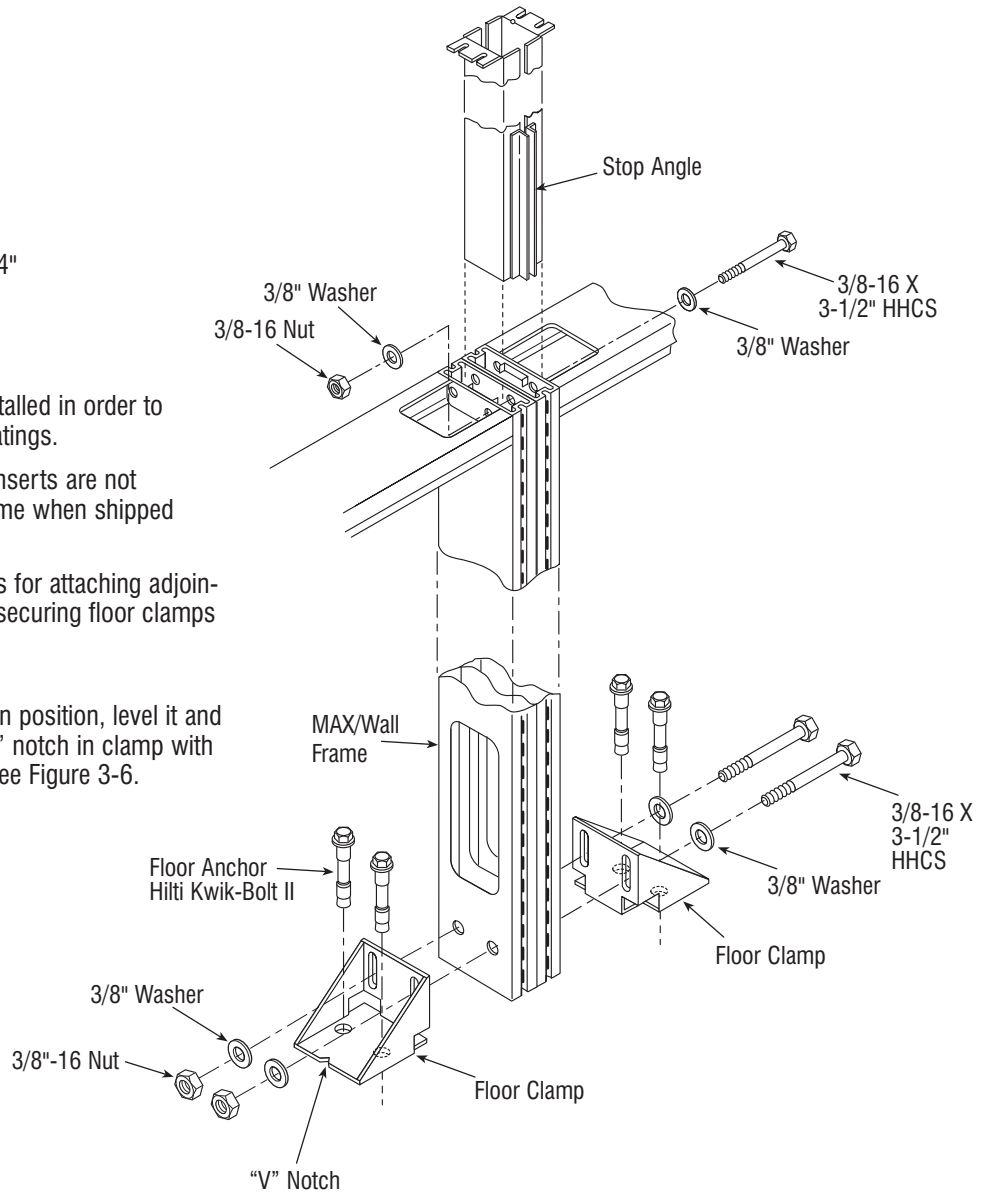

Figure 3-6 Attaching the MAX/Wall frame to the Floor
1. Place first MAX/Wall frame in position, level it and attach floor clamp. Align "V" notch in clamp with the chalk line on the floor. See Figure 3-6.
1. Fasten end of wall core to floor clamp using 3/8-16 x 2-1/2" HHCS. Offset plate should be under the head of the 3/8" screw and on the outside of the riser. See Figure 3-6.